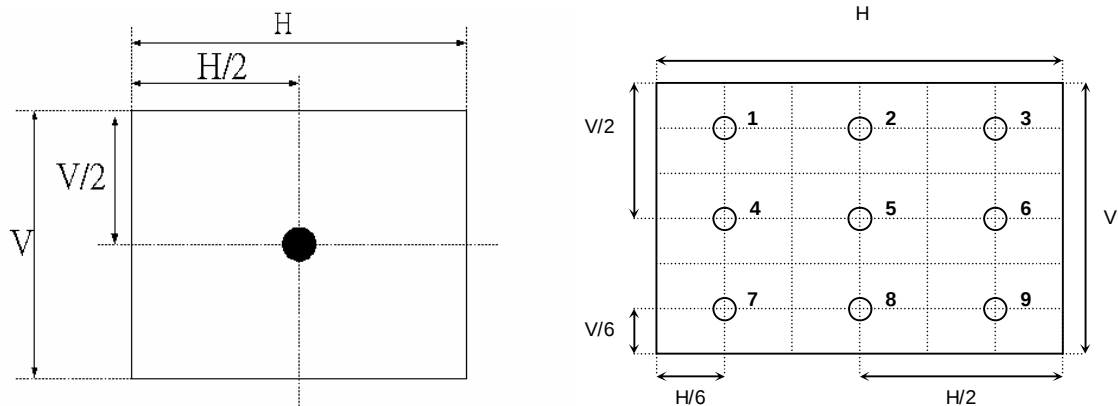

Fig.4-2 Optical measurement point
2. Surface Luminance is luminance value at point 5 across the LCD surface 50cm from the surface with all pixels displaying white. For more information see Fig. 4-2. When lamp current $I_H=9.7\text{mA}$, $L_{WH}=L_{on5}$, where L_{on5} is the luminance with all pixels displaying white at center 5 location.